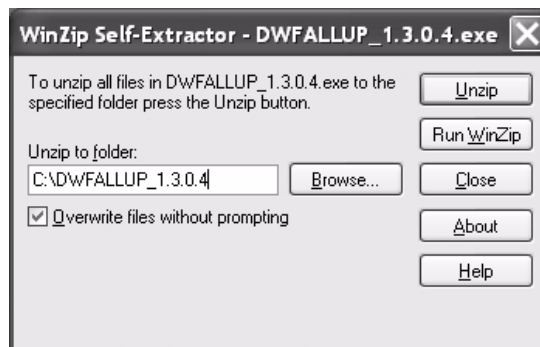

Figure 66: Saving the Fallback Updater utility
3. Open the self-extracting file. The Self-Extractor window appears as shown in Figure 66.